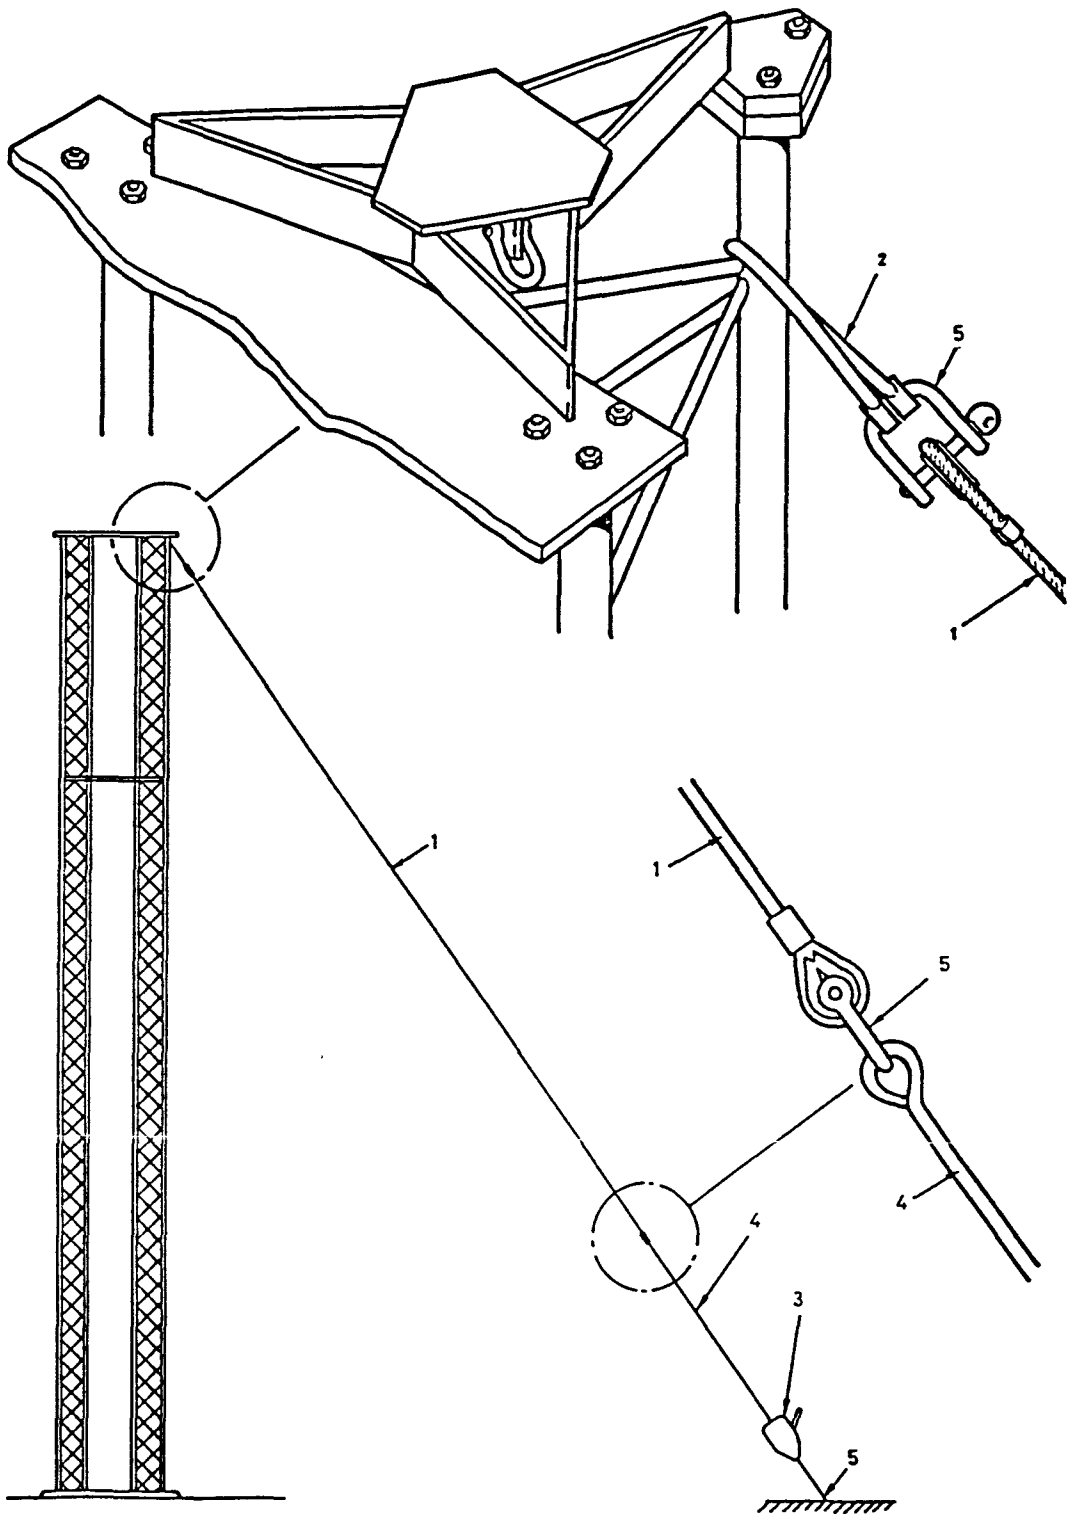

Fig. 3 Temporary stay attachment
8.12 Refer to Fig.3 and Table 3. Attach the wire rope assembly (item 2) one to each mast leg as shown. To each of these attach a rope assembly (item 1) using a shackle (item 5). Shackle a Tirfor winch (item 3) to each block F at each side of the mast base, using a shackle (item 5). Attach a Tirfor rope (item 4) to rope assembly (item 1) using a shackle (item 5). Feed the ropes (item 4) through the winches (item 3) and take up the slack.
TABLE 3 ITEMS LIST FOR FIG.3